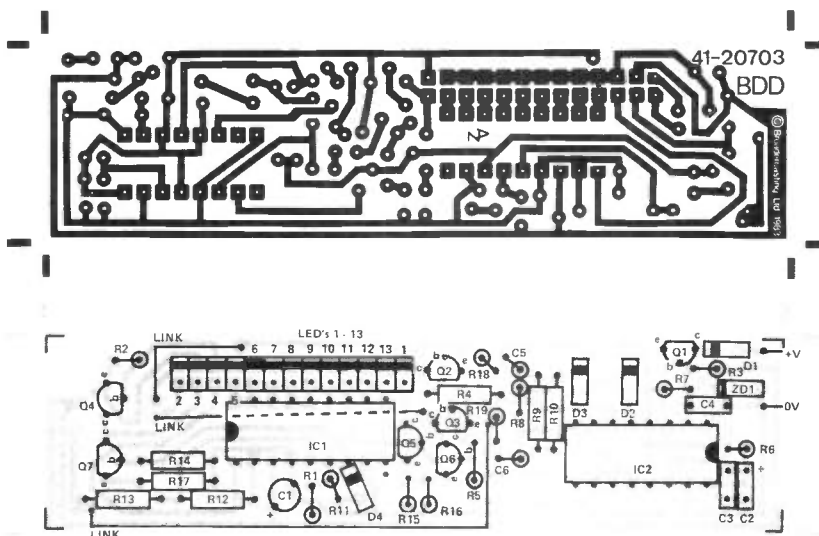

Figure 3: Foil pattern (top) and component overlay.
*FRG 7700 Memory Expansion (June '83):* The diagram in Figure 3 showed a wire coded 'white-violet'. It should read 'WHITE(4) +5V'. Also the switch mentioned in the text is available from Ambit International.